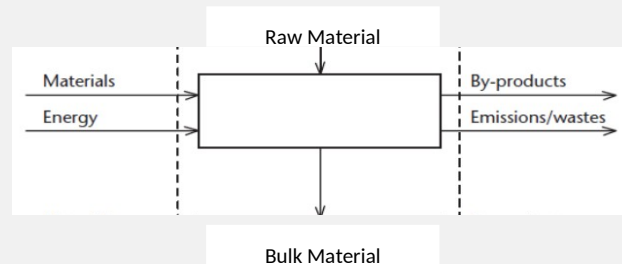

Figure 1: block diagram for conversion of Raw Material to Bulk Material.
Figure 1 shows a generic block diagram, to depict a series of processes that convert a Raw Material to a Bulk Material.
- a) Fill in the following textboxes, using Figures 1 and 2 above, for Bulk Material battery-grade Li_2CO_3 :